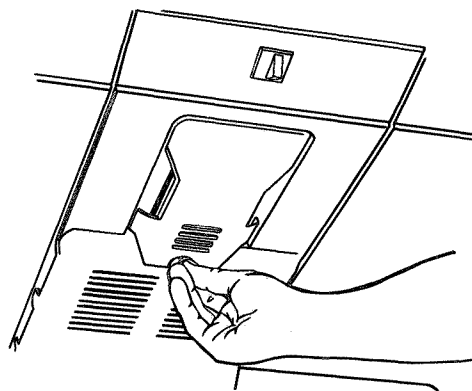

Figure 39
- Snap light cover back in place and return screw back to center back of light cover. See Figure 39.